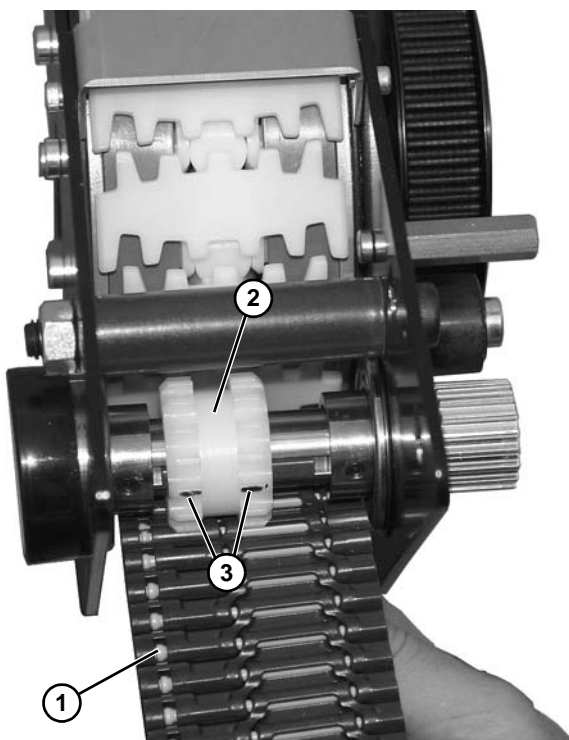

Figure 174
3. Raise belt (**Figure 174, item 1**) into position, and move gear (**Figure 174, item 2**) so that cogs line up with belt, as shown.
4. Tighten sprocket with set screws (**Figure 174, item 3**) in proper alignment with belt (**Figure 174, item 1**).